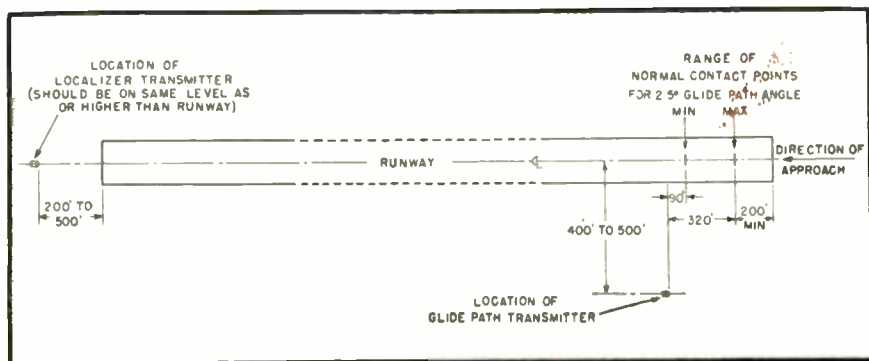
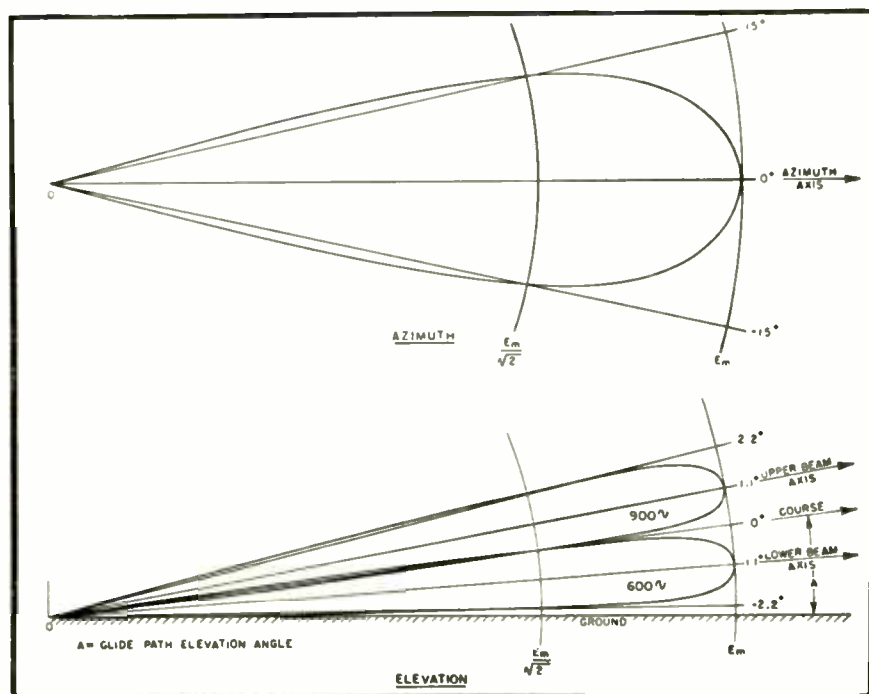

Fig. 2. Location of transmitters on airport with respect to glide path.
Fig. 3. Path along which airplane approaches the field, due to glide path antenna patterns
Fig. 1. High pass circuit driven by low-impedance source. Fig. 2. Frequency response for high-pass filter. Fig. 3. Low-pass circuit as used in the tone-control system. Fig. 4. Frequency response for low-pass filter. Fig. 5. High- and low-pass filters are connected to voltage sources having 180° phase difference
From equation (4) it can be seen that the response will be down 6 db when $\omega CR = 1$. The frequency response for the network shown in Fig. 1 is illustrated in Fig. 2.
Note that the phase of E_o has been shifted 180° relative to E . This is indicated by the minus sign in equation (3). The low-pass circuit in Fig. 3 may next be considered.
which is the same result obtained by adding the absolute values of the filter outputs. Thus the curves of Figs. 2 and 4
Two ground transmitters mounted in separate mobile trailers are set on the airport in the positions shown in Fig. 2 and a receiver is mounted in the airplane. The two ground transmitters project radio beams in space which form a landing path. The resulting path along which the airplane approaches the field is shown in Fig. 3.